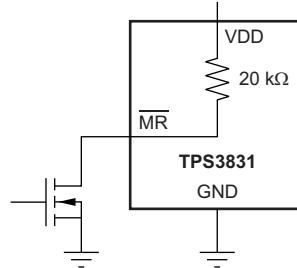

Figure 14. Using a Logic-Level FET to Minimize Current Draw
The manual reset (MR) input allows a processor, or other logic devices, to initiate a reset (TPS3831 device only). A logic low (0.3 VDD) on MR causes RESET to assert. After MR returns to a logic high and VDD is greater than the threshold voltage, RESET is deasserted after the reset delay time, td, elapses. MR is internally tied to VDD with a 20-kΩ resistor; therefore, this pin can be left unconnected if MR is not used. If a logic signal driving MR does not go fully to VDD, some additional current draws into VDD as a result of the internal pullup resistor on MR. To minimize current draw, a logic-level FET can be used, as shown in Figure 14.